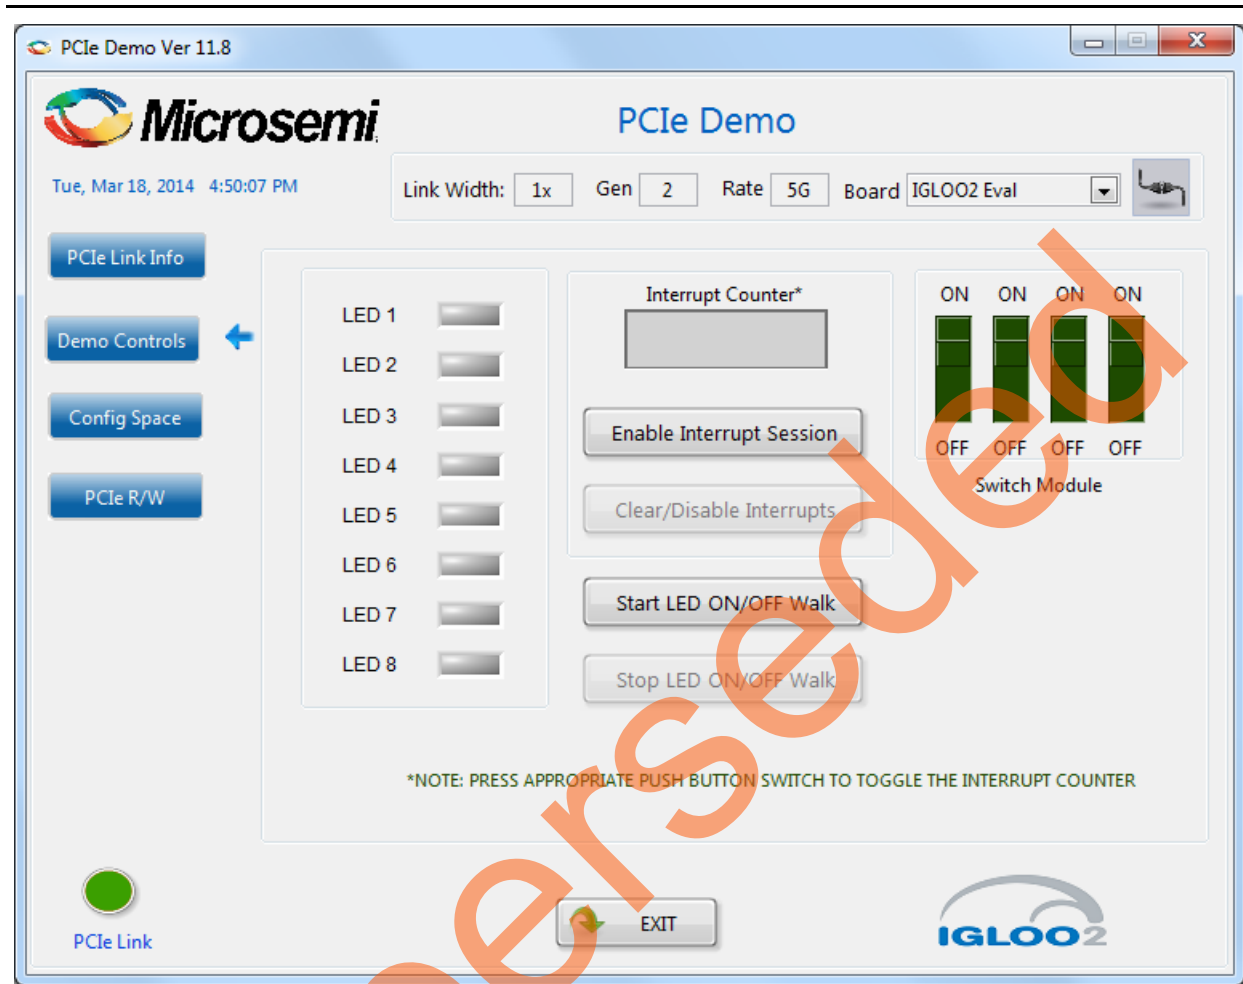

Figure 60 • Demo Controls
4. Clicking **Demo Controls** in the GUI displays the LED options and DIP switch positions as shown in Figure 60.